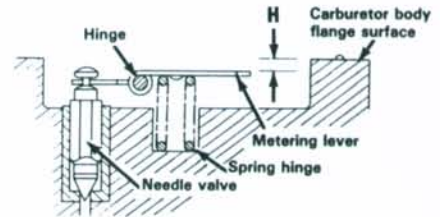
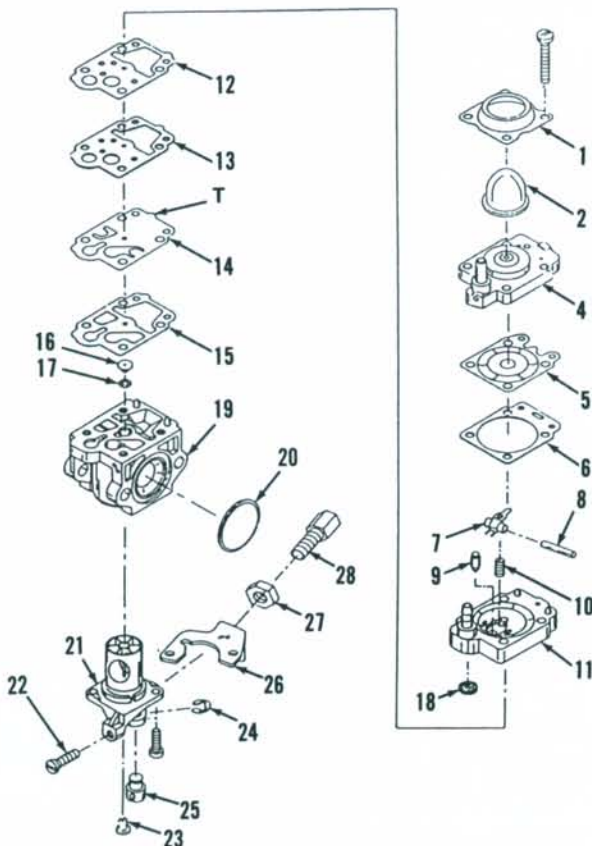

Fig. MI54—Metering lever height (H) must be set on diaphragm-type carburetors. Refer to text for specified height.
Fig. MI53—Exploded view of Walbro WYJ. Model WY is similar.
The high-speed mixture is controlled by a removable fixed jet (16—Fig. MI53).
To overhaul carburetor, refer to exploded view in Fig. MI53 and note the following: On models with a plastic body, clean only with solvents approved for use with plastic. Do not disassemble throttle barrel assembly. Examine fuel inlet valve and seat. Inlet valve (9) is renewable, but fuel pump body (11) must be renewed if seat is excessively worn or damaged. Clean fuel screen (18). Inspect diaphragms for tears and other damage. When installing plates and gaskets (12 through 15) note that tabs (T) on ends will "stairstep" when correctly installed. Adjust metering lever height to obtain 1.5 mm (0.059 in.) between carburetor body surface and lever as shown in Fig. MI54.
tween carburetor body surface and lever as shown in Fig. MI54.